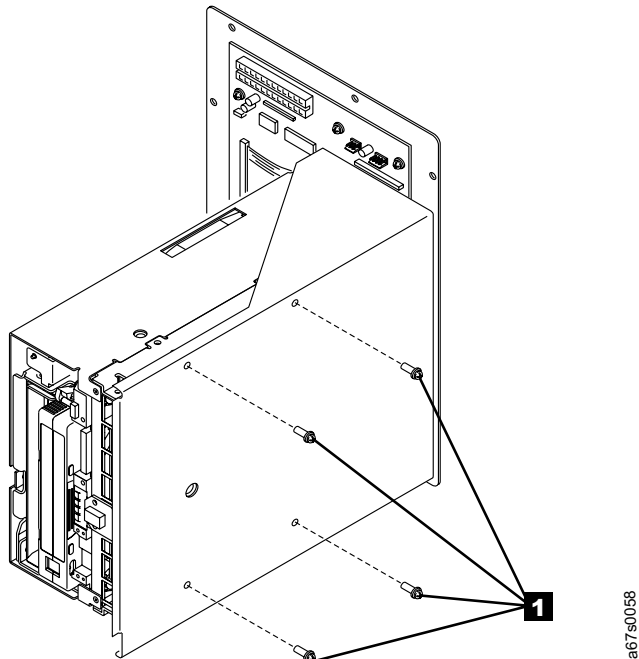

Figure 29. Removing the drive assembly sled from the tape drive
- a. Using a Phillips screwdriver, remove the four screws (**1** in Figure 29) that secure the drive assembly sled **2** to the drive **3**. Set the screws aside.